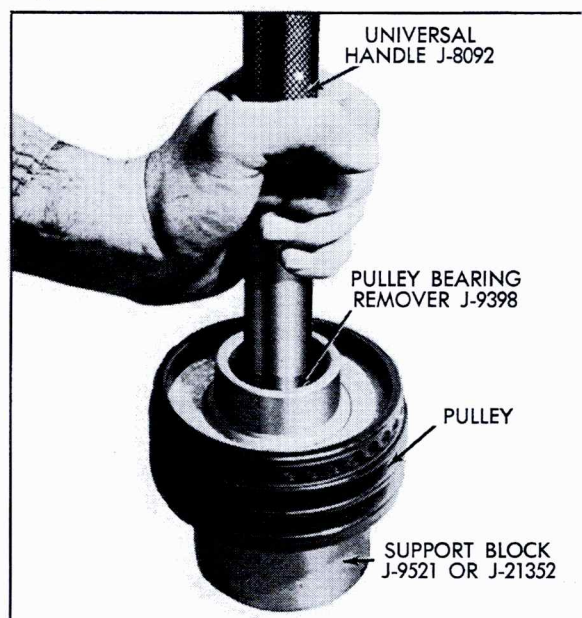

Fig. 1-46 Removing Bearing from Pulley
4. Place pulley and bearing assembly on inverted Support Block, J-9521, and, using Pulley Bearing Remover, J-9398, with Universal Handle, J-8092, drive bearing assembly out of pulley, Fig. 1-46.